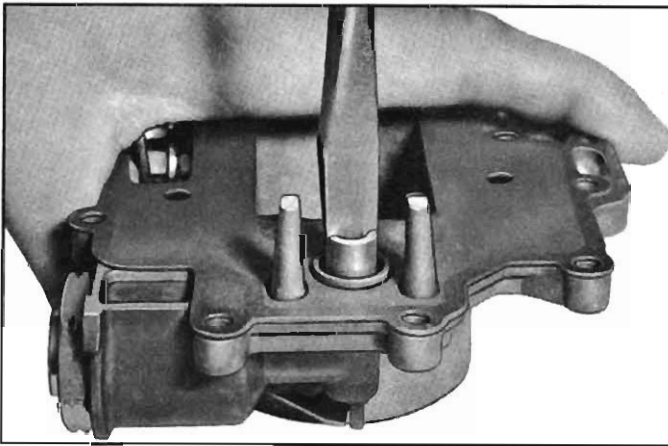

Fig. 9-17—Removing Needle Seat
8. If necessary, needle seat and gasket may be removed by using a large size screwdriver (fig. 9-17). It may then be cleaned or replaced as needed.